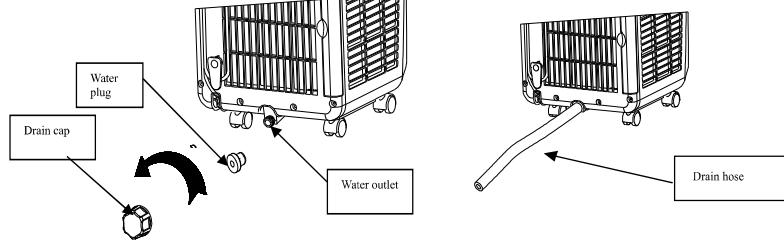

Figure 13
- 1). Screw off the water cap in the direction shown by the arrow and unplug the water plug; (Figure 13)